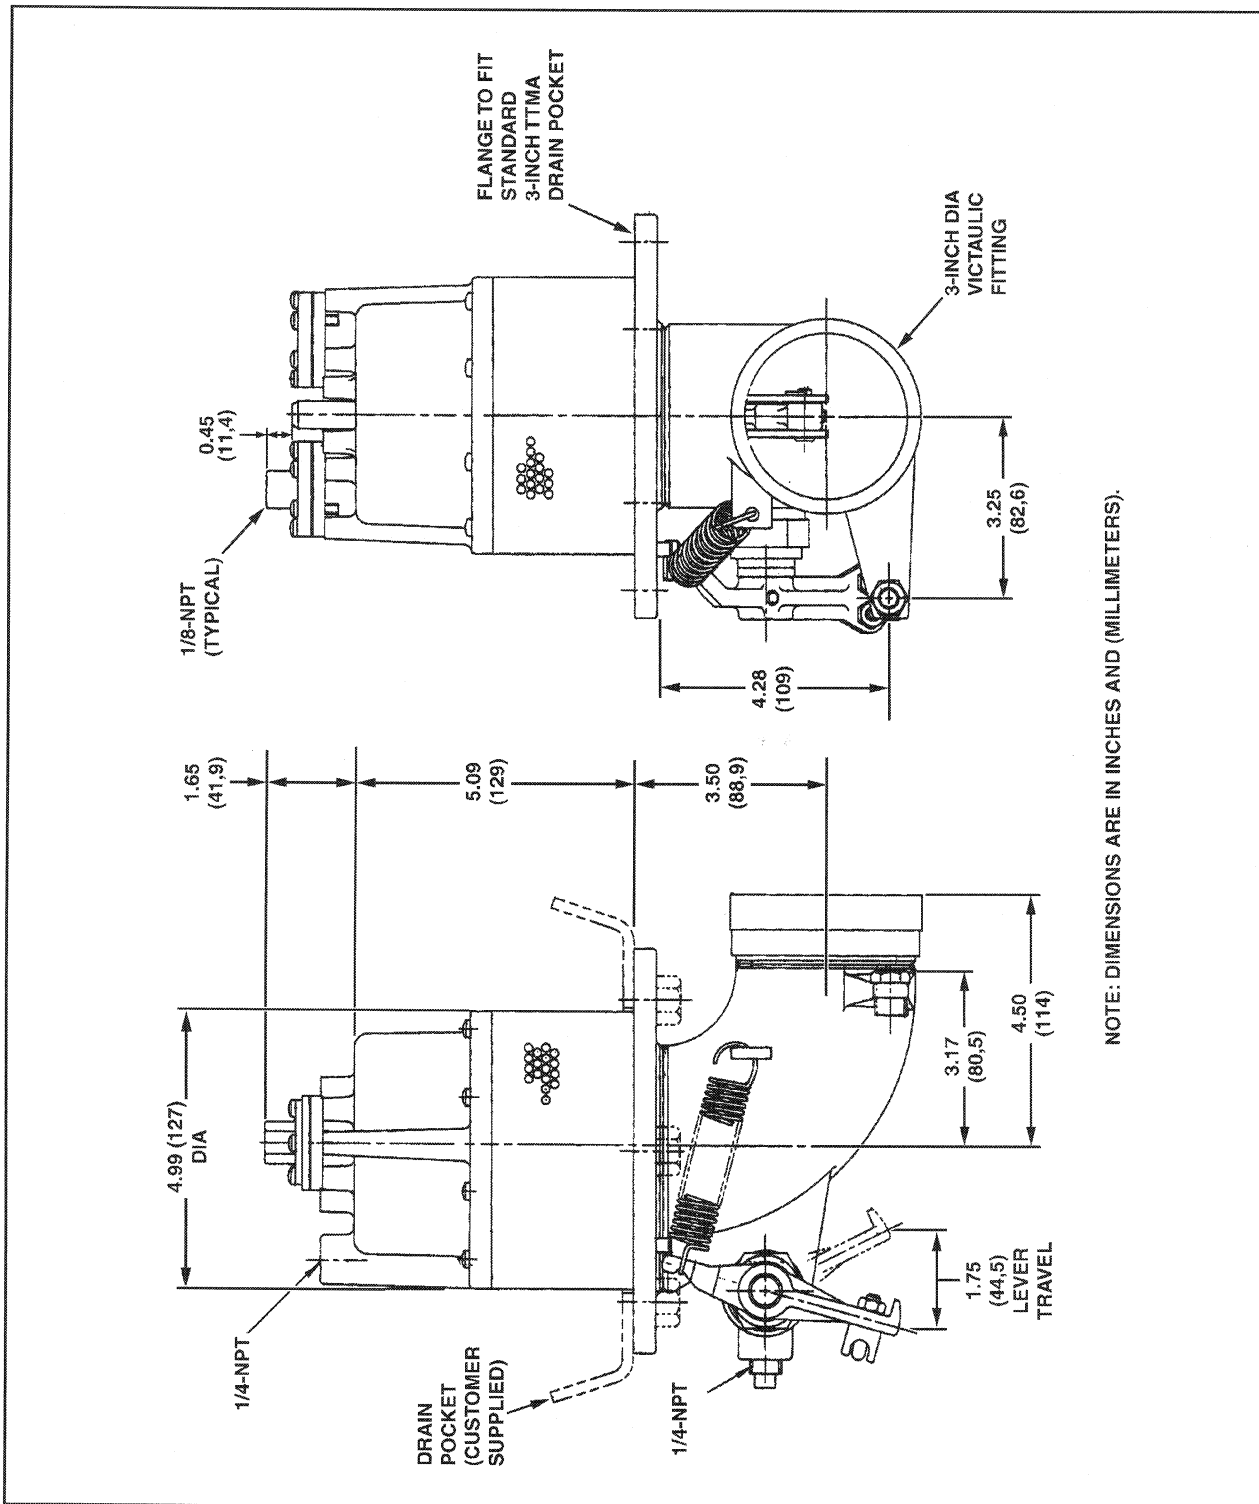

Figure 2. Envelope Dimensions
Envelope Dimensions	See Figure 2
Pilot valve diaphragm (3, IPL Figure 2) leaking	Overhaul or replace the pilot valve.
2. Disassembly of the Pilot Valve (Refer to IPL Figure 2)